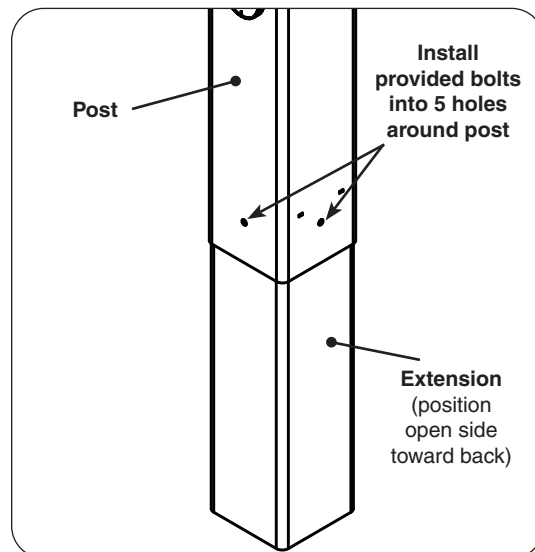

Fig. 21-1 Install extension to post
1. Attach the extension to the bottom of the grill post so that the open portion is toward the back of the grill and the five holes in the extension line up with the five (5) weld-nuts in the post (see Fig. 21-1).